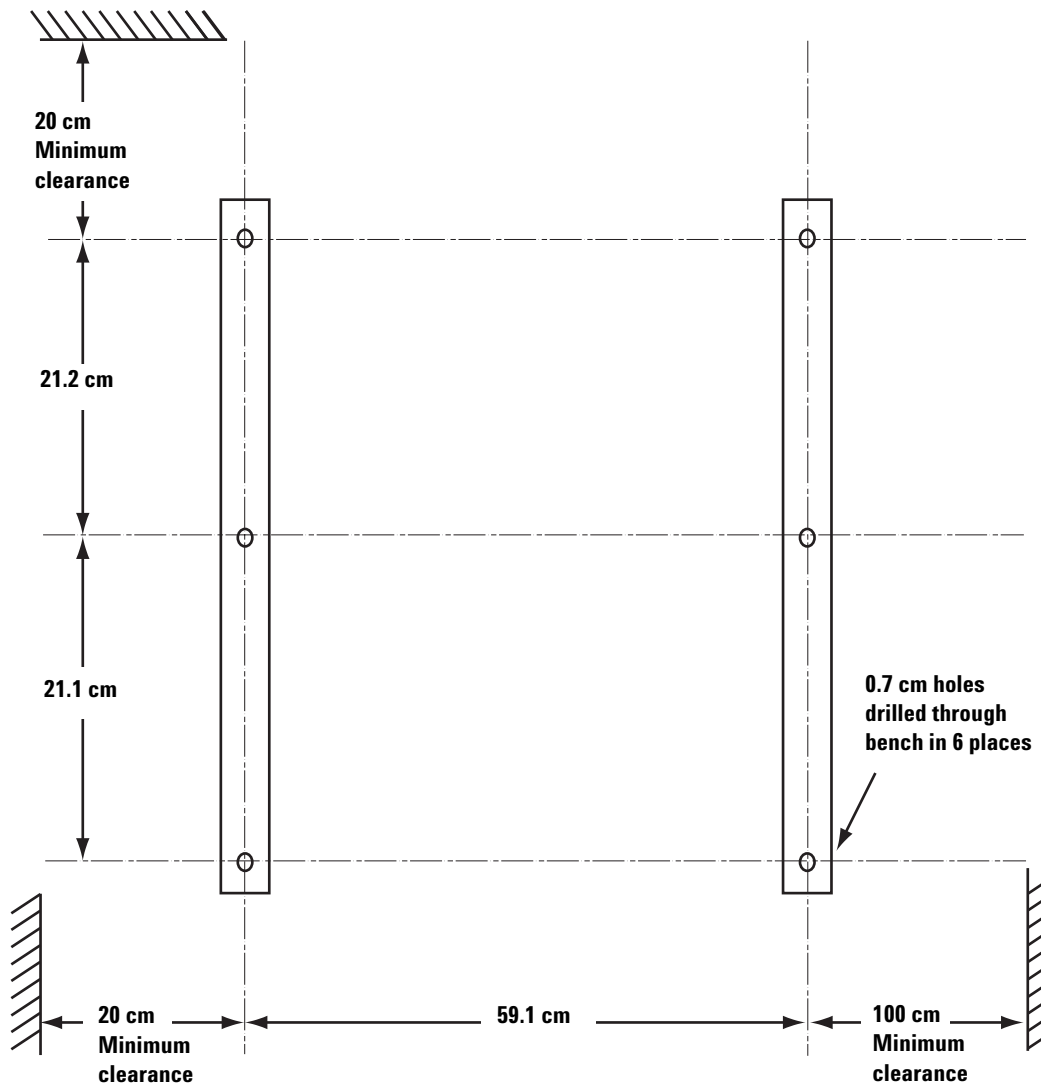

Figure 2 Bolt pattern
The 5975T LTM GC/MSD must be secured to a bench top in the mobile laboratory to prevent it from moving whenever the vehicle is moving. The bench holding the instrument requires (6) 7-mm diameter holes to allow through-bolts to secure the instrument to the bench. See Figure 2 for the layout location of these holes that must be provided in the bench top.